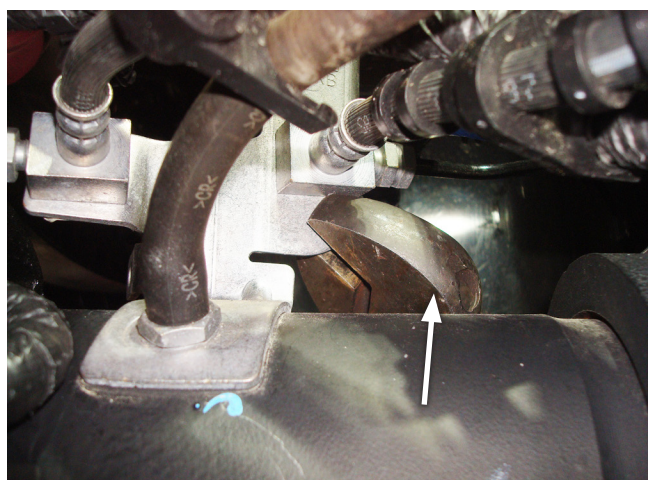

Fig. 20
2. Make clearance for the lower air spring roll plate by bending the upper Brake line/ABS harness/vent tube bracket. Hold the bottom of the bracket by using an adjustable wrench to make the bend (Fig. 20).